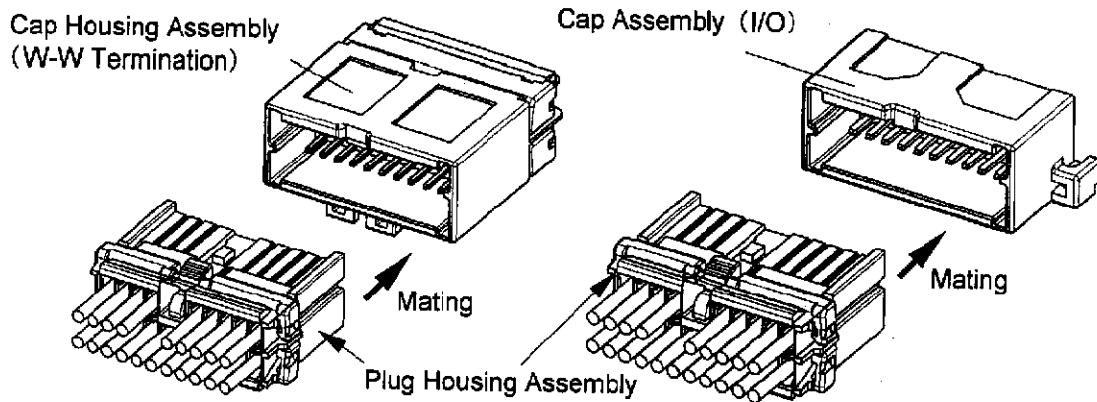

Fig.13
Insert the proper plug housing into the cap housing or cap assembly straight with same direction as shown in Fig.13. The operation is finished when you hear the click sound and can not insert further. When you can not insert the housing, do not insert by force, and check the items in (1),(2).